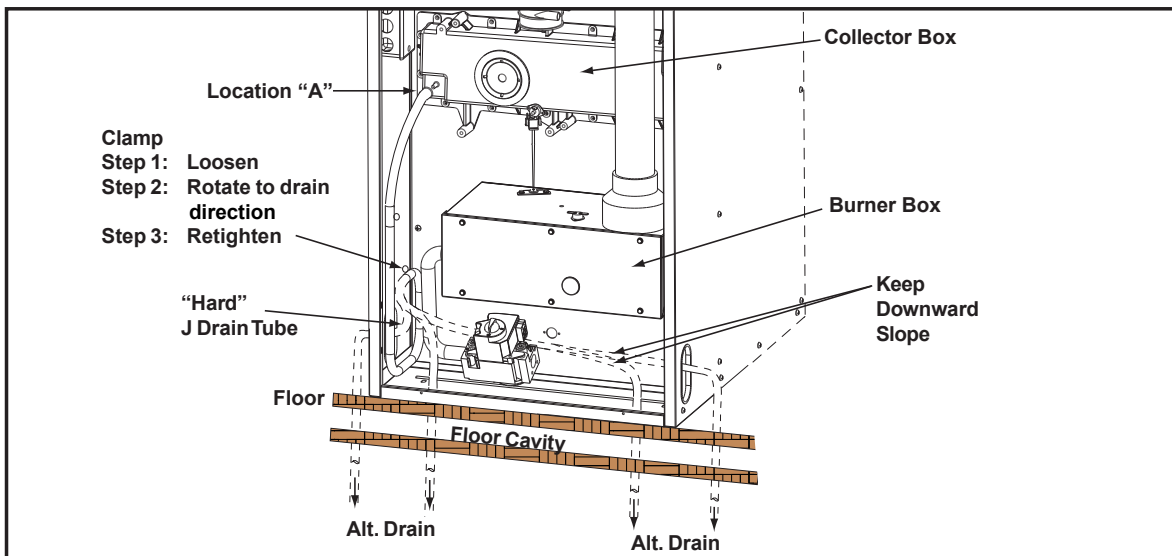

Figure 21. Furnace with Condensate Drain Trap Assembly
The condensate drain may exit through the left side panel, the right side panel, or through the left or right hole on the bottom panel. (See Figure 21). Ensure that the flexible drain hose is not kinked.
The condensate should drain from the plastic collector box (location "A", Figure 21) as drop-lets or a small stream. If you notice the furnace has operated for more than 5 minutes without draining or the red status light on the control board is pulsing a 2-blink code follow the steps below.
1. Remove the collector box soft tube at location "A", Figure 21 and verify the exit from the collector box is clear of any debris or obstructions.